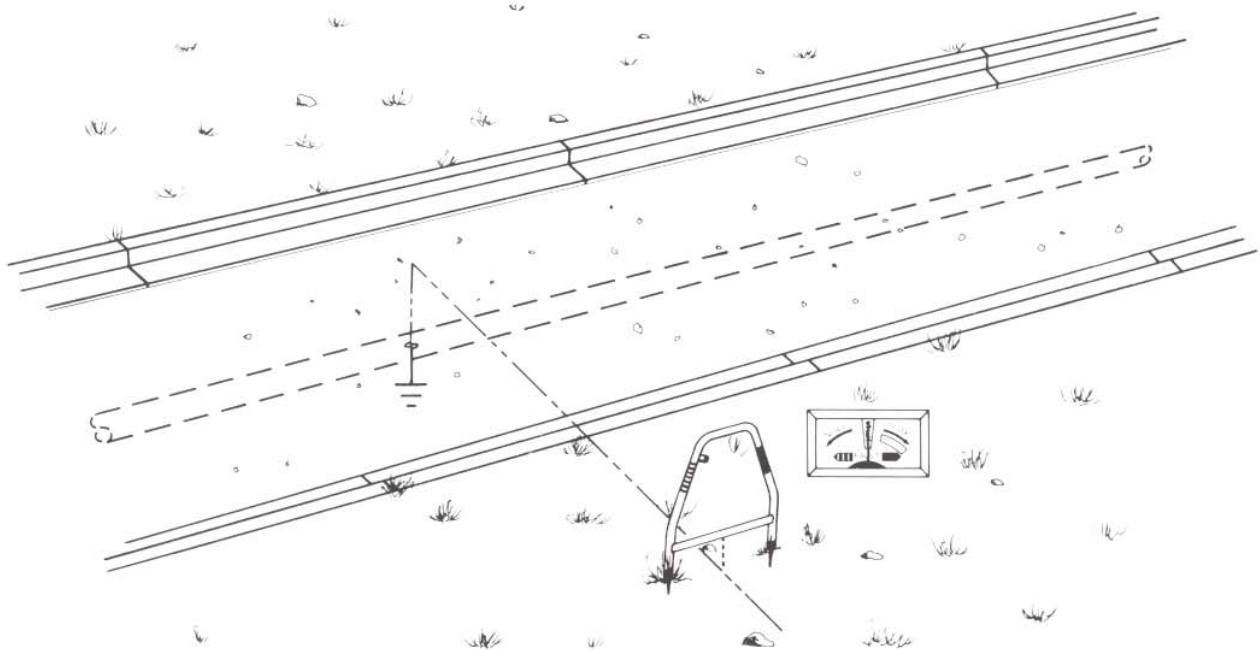

Fig. 19 — Fault Location - Perpendicular Method
- 1) Hold the frame parallel to the cable path. Meter reversal will occur when the frame center is directly perpendicular to the sheath fault (see Fig. 19).